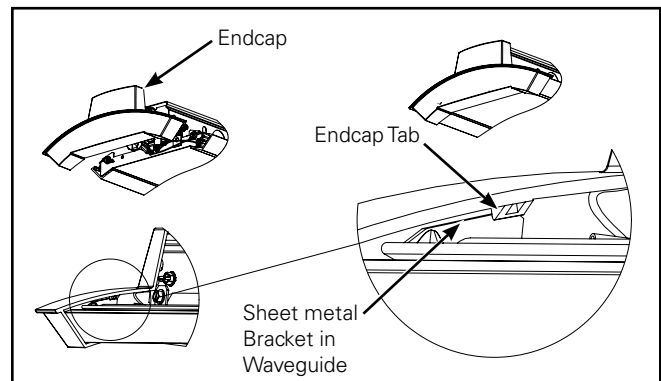

Figure 7.
- Remove protective film from the waveguide. Remove endcaps from parts box, install Endcap to fixture. Tuck wire harnesses and safety cable while installing. Endcap tabs must fully engage in the metal bracket. (Figure 7.)